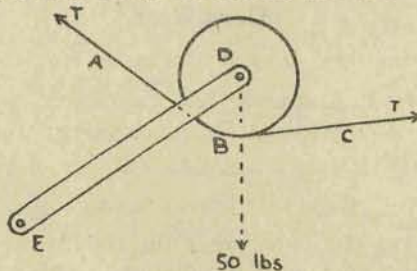

Fig. 1.
1. In Fig. 1, ABC is a scale drawing of a belt passing under a jockey pulley D which weighs 50 lbs. The pulley axle turns in the end D of a radius link DE which can swing about a fixed pivot at E.